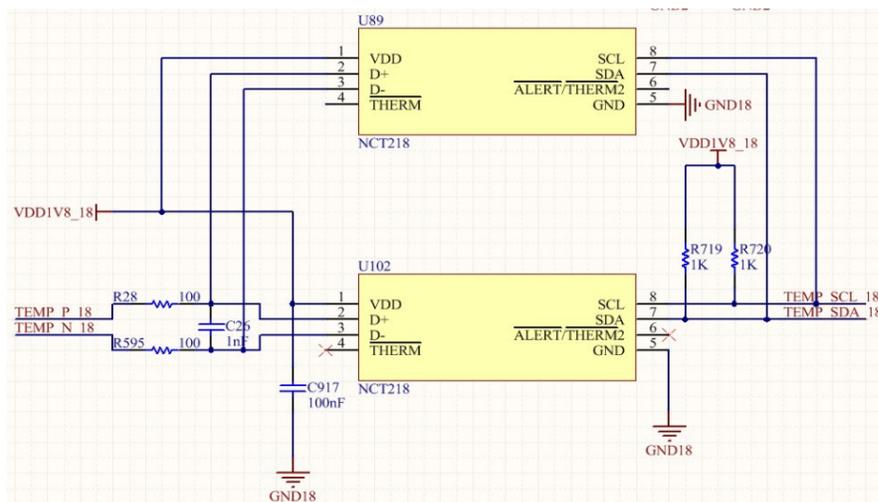

Fig 21. Temperature Sensor Schematic Diagram
9. Temperature sensor circuit: two temperature sensors, one is TEMP (PCB), consisting of sensor IC; the other is TEMP (CHIP), composing of chip build-in temperature sensor group (BM1387 pin 15 and pin 16). The two temperature sensors collect parameter, and return to FPGA of control panel from RI via BM1387 pin 17 and pin 18. The principle is as Fig 21: The normal temperature range of the chip of S9 Miner Temp (Chip2) is 65-125 degrees Celsius, and the max running temperature of miner chip is degrees Celsius. When exceeding the range, red light blinks and gives an alarm, and machine halts for protection.